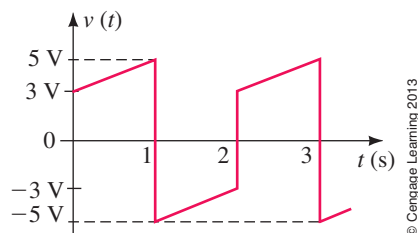

FIGURE 25–62
17. The waveform of Figure 25–62 is made up of two fundamental waveforms from Table 25–1. Sketch the two waveforms and determine the Fourier series of the composite wave.